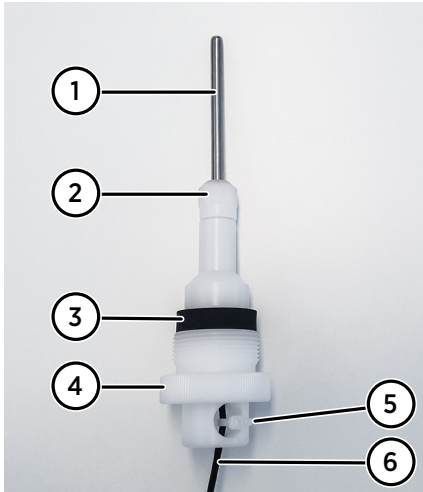

Figure 26 HMP9 probe head with sensor head support 215130
2. Attach the probe head to the sensor head support and secure it with a cable tie. The alternate sensor head support (item code 215130) needed with HMP9 is shown in Figure 26 \(page 51\).